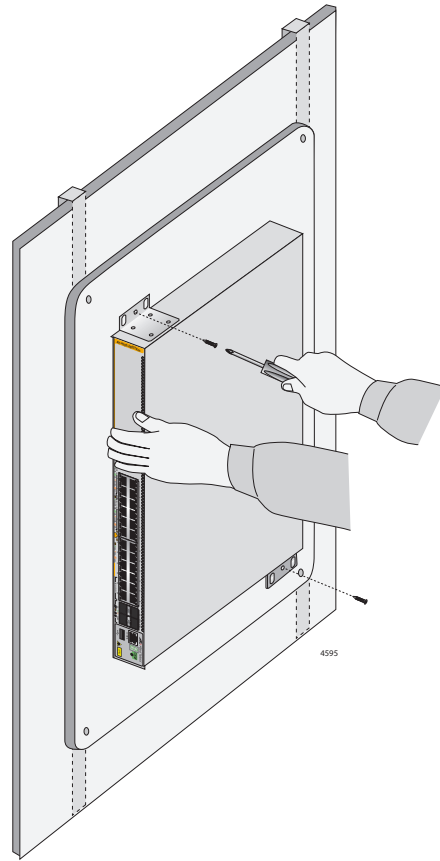
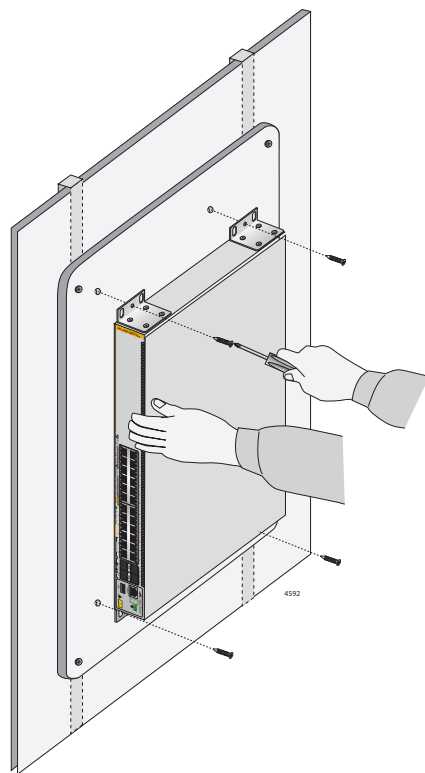

Figure 26. Securing the AT-x530-28GTXm Switch to the Plywood Base
Figure 27. Securing the AT-x530-28GPXm Switch to the Plywood Base
3. After attaching the brackets, have another person hold the switch on the plywood base on the wall while you secure it with the M4x32.3mm screws included with the switch. Refer to Figure 26 on page 71 for the AT-x530-28GTXm switch or Figure 27 on page 72 for the AT-x530-28GPXm switch.